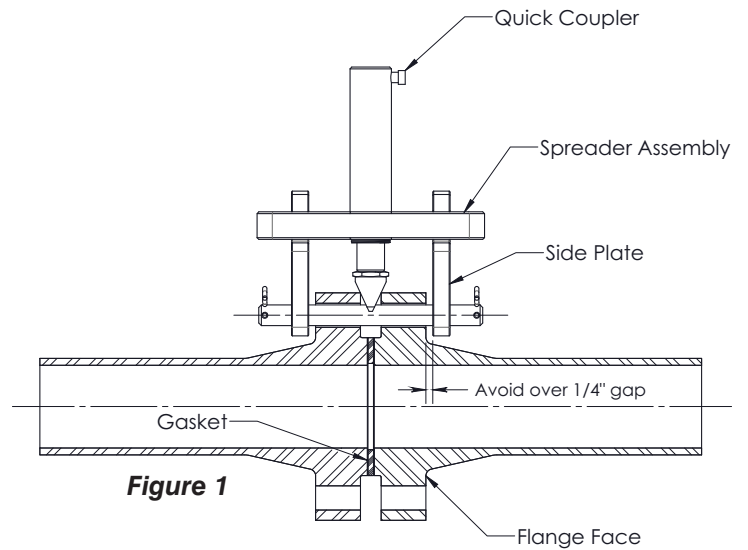

Figure 1
- Slip the assembled spreader onto the flange. Align the holes in the side plates with the flange bolt holes and insert the flange pin through the side plates and bolt holes as shown in Figure 1. Insert the hitch pin clips. Keep the side plates, pin and crossbar centered on the flange.
- Rotate the wedge clockwise allowing the tapered sides to be forced between the flange faces. If the wedge cannot be rotated sufficiently in a clockwise direction for proper alignment, then rotate it counter-clockwise just enough to align it with the flange. See Figure 1.